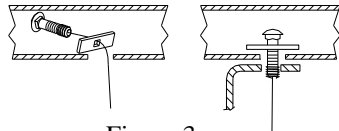

Figure 3.
①	Qty. (6)	Hex Bolt M12	⑤	Qty. (2)	Block 1-1/2 X 2 (Small Block)
②	Qty. (8)	Conical Washer	⑥	Qty. (2)	Block 1-1/2 X 3 (Large Block)
③	Qty. (4)	Carriage Bolt 1/2-13	⑦	Qty. (2)	Pull Wire
④	Qty. (4)	Hex Nut 1/2-13
3. Feed the carriage bolt and large block thru slots on bottom of frame rails using the pull wire, as shown Figure 3